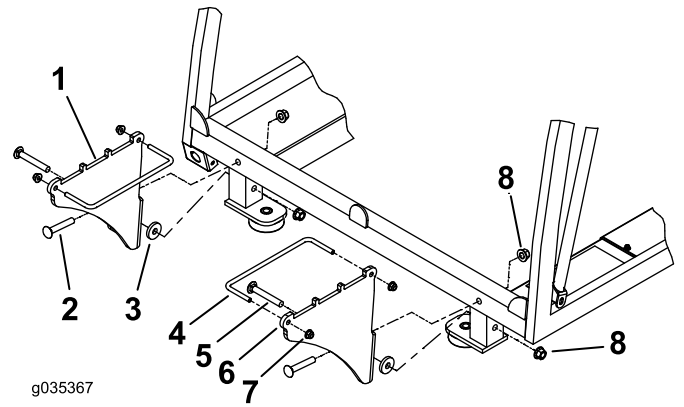

Figure 4
2. Install the weight brackets as shown in Figure 4.